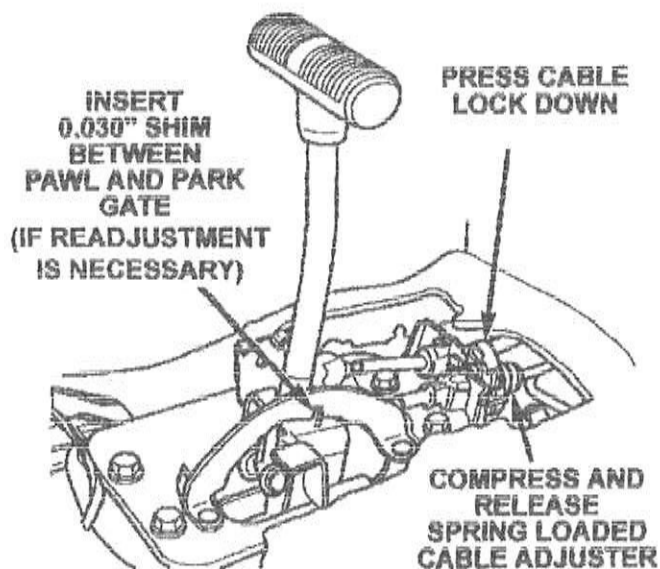

Figure 28
35. Compress and release the spring loaded cable adjuster (Figure 28).
36. Press the interlock cable lock clamp down until it snaps into place (Figure 28).
- C. Compress and release the spring loaded cable adjuster (Figure 28).
NOTE: If a second cable adjustment is required, insert a .030 pin or shim between the pawl and the park gate (Figure 28) and continue the adjustment procedure. Remove the pin or shim after the cable has been locked.